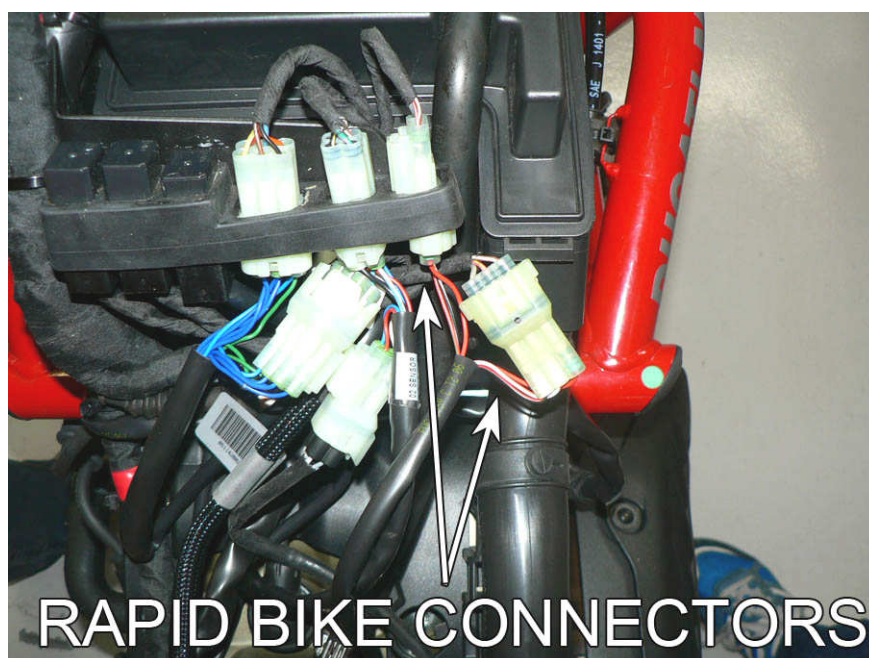

Fig.2
4. Connect Rapid Bike connectors in-line of the stock connectors (**Fig.2**).